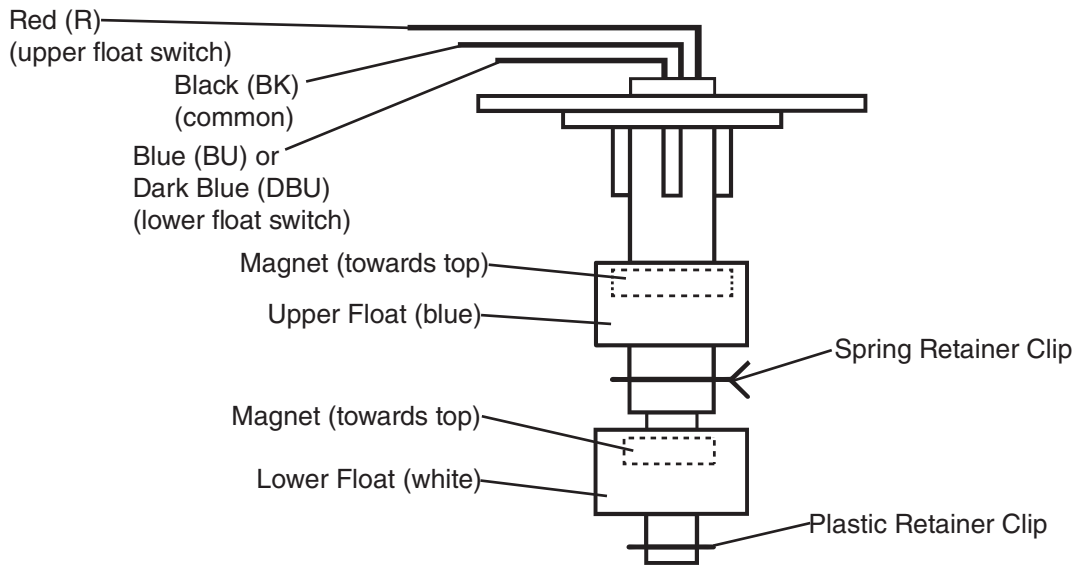

Fig. 7
- 4) Remove the FS molex plug from the control box and check continuity across FS wires. Black (BK) to red (R) for the upper float and black (BK) to blue (BU) or dark blue (DBU) for the lower float. See Fig. 7. With the water reservoir empty, the float switches are open.
- 7) While not necessary, the floats can be removed from the shaft during cleaning. If you remove them, note that the blue float is on top. The floats must be installed with the magnets inside them towards the top of the switch. See Fig. 7. Installing the floats upside down will affect the timing of FS operation.